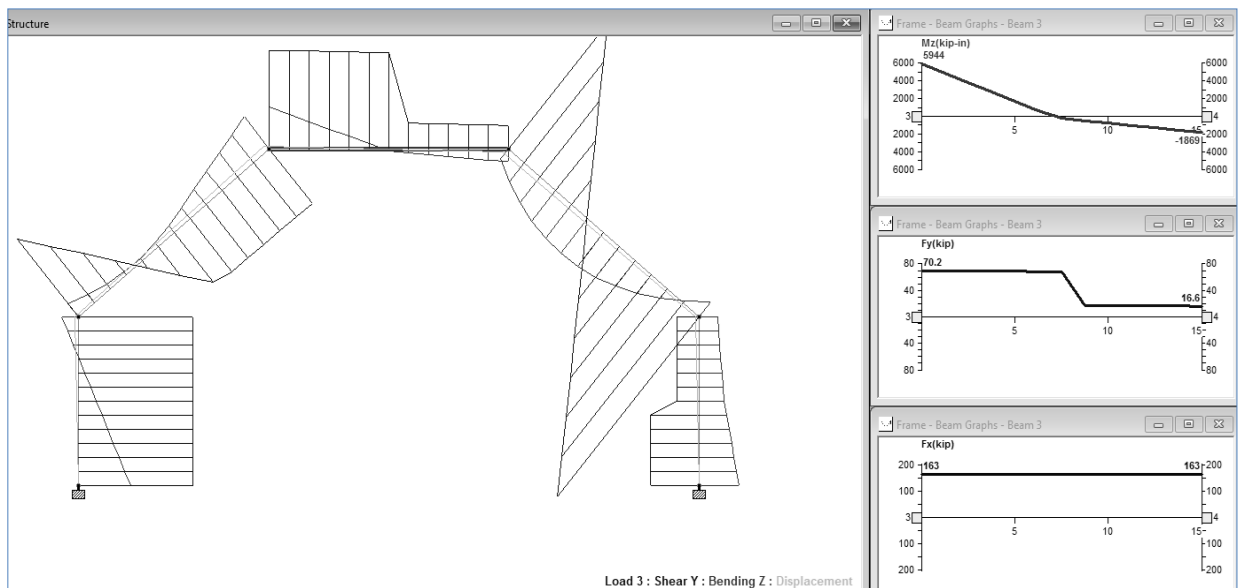

Fig: 3.15
- For Beam Forces: From left side click on Beam → Graphs the find out Bending moment, Shear force, and Axial force by clicking on required Beam from the following. (Fig: 3.15)